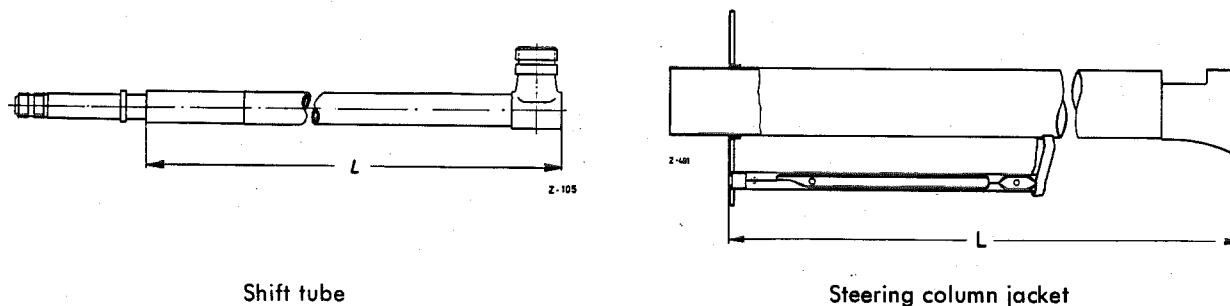

Fig. 26—15/3
5. Remove rubber cuff (22) at the shift lever (Fig. 26 — 15/2).
6. Turn the guide pin (15) 180° with a screw driver and remove the snap ring (18) together with the shim (17) and the upper rubber ring (16) (see Fig. 26 — 15/2).
7. Push the guide pin (15) down until it protrudes from the guide in the steering column jacket. Then press the guide pin in and remove it from inside the steering column jacket together with spring seat pin (14), pressure spring (13), and lower rubber ring (16) (see Fig. 26 — 15/2).
12. Smear the guide pin (15) together with lower rubber ring (16), spring seat pin (14), and pressure spring (13) with roller bearing grease and install them in such a way that the spot-faced bore of the guide pin points toward the inside of the steering column jacket (see Fig. 26—15/2)
14. Install the upper rubber ring (16) and the shim (17).
15. Insert a rod in the shift lever bore of the guide pin (15) and press the guide pin (15) upward until the snap ring (18) can be installed.
Install the snap ring (18) and turn the guide pin (15) 180° by means of a screw driver. The spot-faced bore of the guide pin should now point toward the outside of the steering column jacket (see Fig. 26—15/2).
16. Rub talc into the inside and outside of the rubber cushion (20) and slide the rubber cushion into the shift lever mounting. Insert the shift lever (19) into the shift tube and the guide pin. Tighten the cover cap (21) by means of Special Wrench 187 589 01 01 and slide on the rubber cuff (22).
18. Install the steering column jacket by screwing in the screws attaching the steering column jacket to the cowl. Then install the tightening strap in the steering column bracket from the front and attach the steering column jacket by screwing in the hexagon nut (3) at the steering column bracket (see Fig. 26 — 15/1).